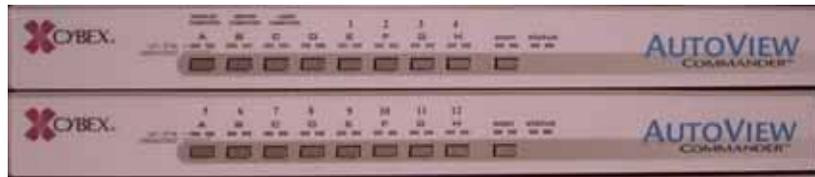

Figure 1-5—KVM switch boxes
1. Press a switch on the KVM switch boxes. See *Figure 1-5*.